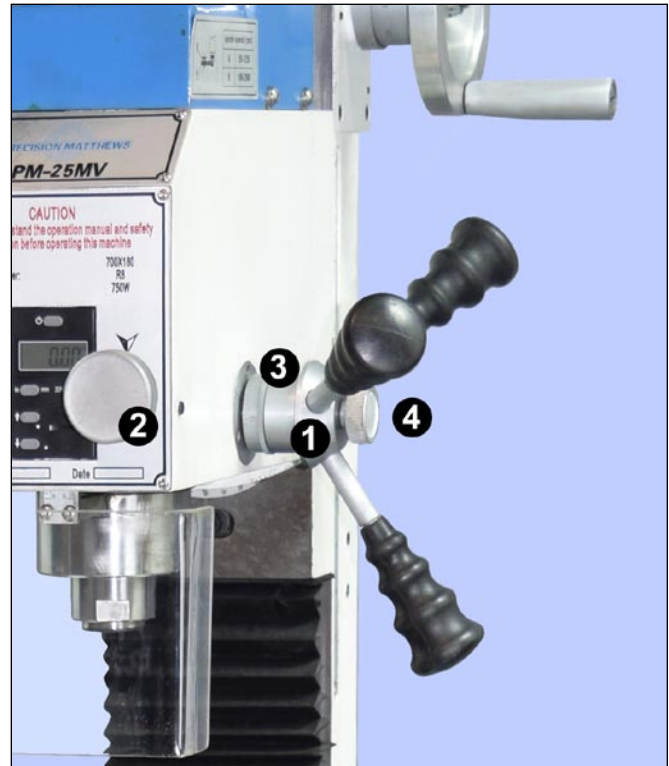

Figure 3-7 Quill downfeed controls
### Coarse feed (Figure 3-7)
### Fine feed (Figure 3-7)
4. Engage the fine downfeed, Figure 3-7.